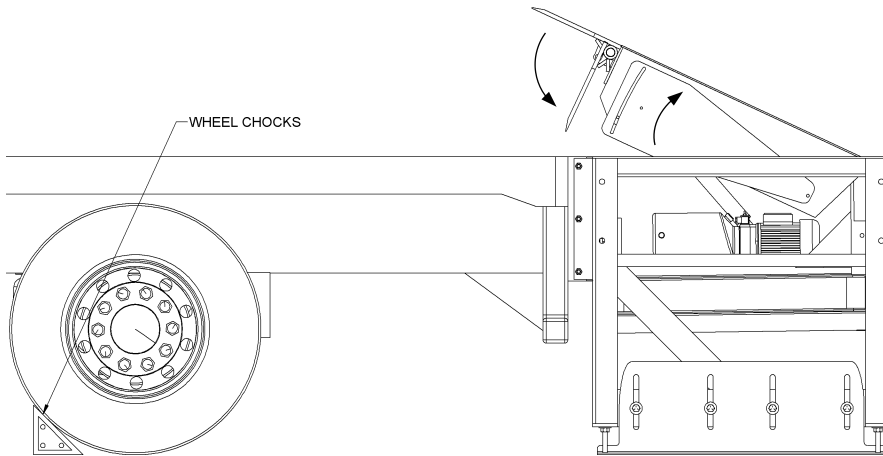

Figure 6: Raising Leveler from Trailer Bed
1. Press the UP button until the lip is fully pendent (Figure 6).